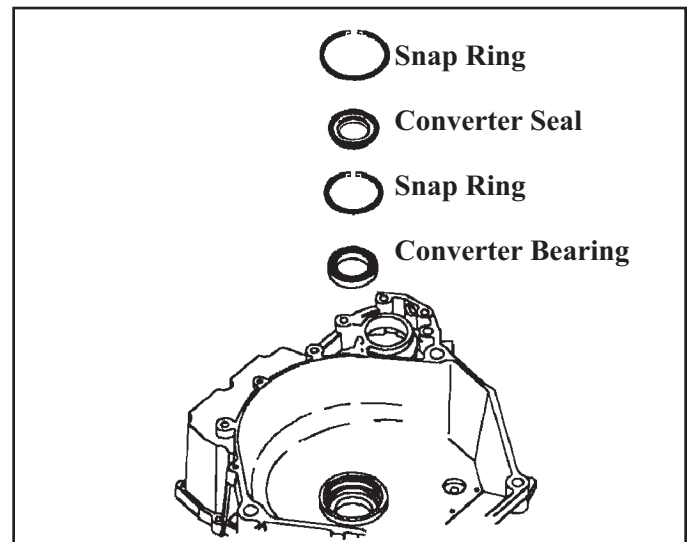

Figure 151
12. Press converter bearing into the housing using Saturn's tool SA9114T or equivalent and install the bearing retaining snap ring (See Figure 151).
13. Install a new torque converter seal using Saturn's tool SA9107T or equivalent and the seal retaining snap ring (See Figure 151).